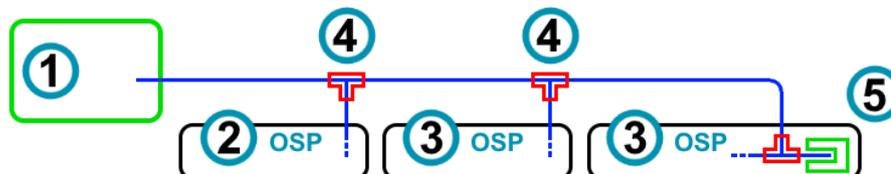
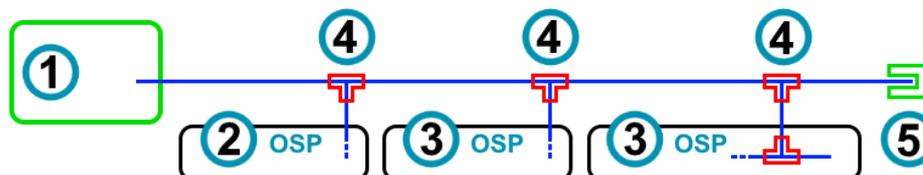

Figure 5-46: Schematic trigger setup with internal 50 ohms termination in the last switch unit (3)
Figure 5-47: Schematic trigger setup with external 50 ohms termination (5) after the last trigger input
- Terminate the trigger line with 50 ohms at one switch unit, either at the master switch unit (in the absence of slaves) or typically at the last slave (if available). Termination can be **internal** inside a switch unit as in Figure 5-46 or **external** as in Figure 5-47.
If the signal cable is not externally terminated (as in Figure 5-46), use internal termination in **one** switch unit. To do so, set "Termination" to "50 Ohm" in **this** switch unit and to "High Impedance" in **all other** switch units.
If the external 50 ohms termination (labeled (5) in Figure 5-47) is present, set "Termination" to "High Impedance" in **all** switch units.